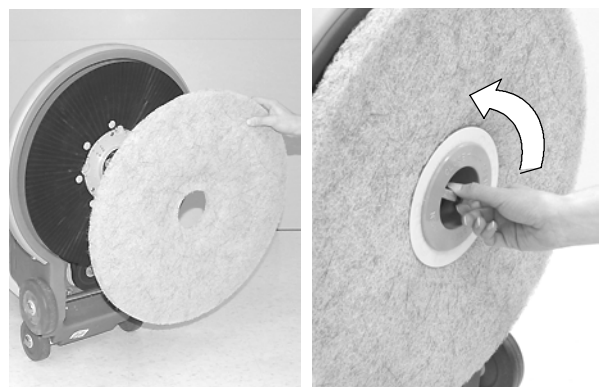

FIG. 2
3. To install the pad, remove the plastic centerlock ring from the pad driver by turning it clockwise. Position the pad on the pad driver and replace centerlock ring by turning it counter-clockwise. Make sure the centerlock ring is fastened securely (Figure 2).